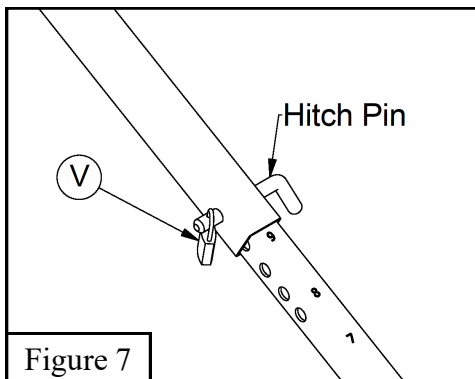

Figure 7
7. Recheck the *Backboard* (J) and *Breakaway Goal* (L) ensuring they are still level. Readjust as necessary.
8. Without attaching the *Backboard Braces* (E), remove *Lock* (V) from the hitch pin, pull hitch pin from the telescoping height adjuster and raise the goal to the 10' playing position and re-insert the hitch pin and *Lock* (V). See Figure 7.